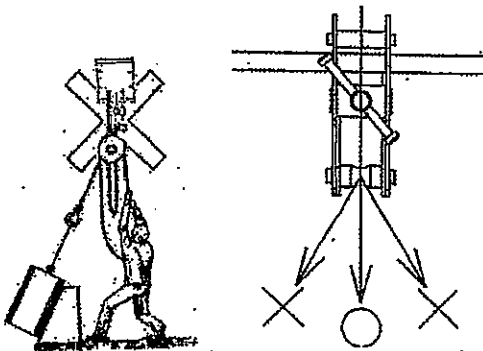

Fig.2
- Use this Clamp within the allowable load to keep the safety operation. Do not use in excess of such rated load. Lift a load at the center of the supporting pin. To avoid any damage to the body, never perform horizontal lifting. Always lift in the direction where the lifting point at the center of the supporting pin and the attachment point to a load become straight. (fig.2)
- Do not clamp and lift unintended direction. ( Fig.2 )